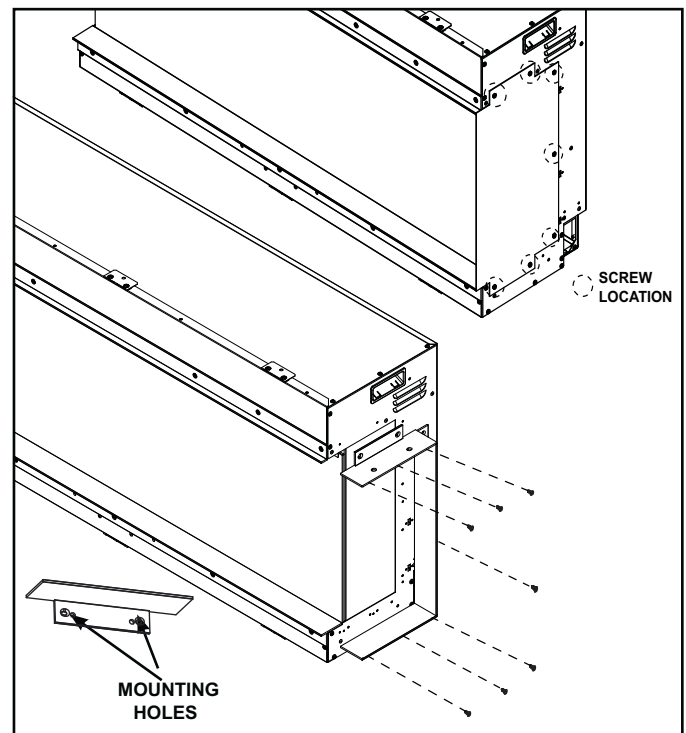

Figure 4.3 Plate Removal and Trim Install
- To install the appropriate trim for the desired configuration, if applicable, remove the flat side cover plate from the side of the appliance by removing seven screws. See Figure 4.3.
- Install the desired trim, 1/2-inch (13 mm) or 2-inch (51 mm), by securing the top and bottom pieces to the side with two screws each that were removed from the flat side cover plate. Attach the vertical trim with three screws. Note: The bottom trim has 4 holes. See Figure 4.3.